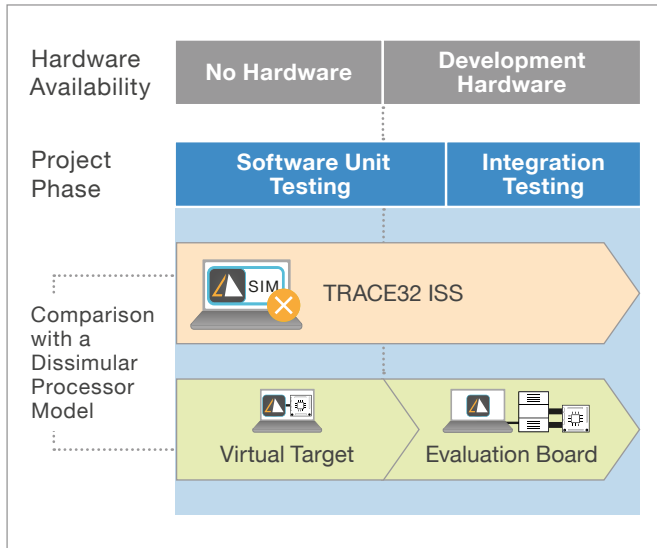

Figure 4: Workflow with Output Comparison From Another Processor Model
- When TRACE32 ISS is used to test algorithms, confidence in use can be established by running the same tests with a virtual target or an evaluation board (see figure 4 on the next page).